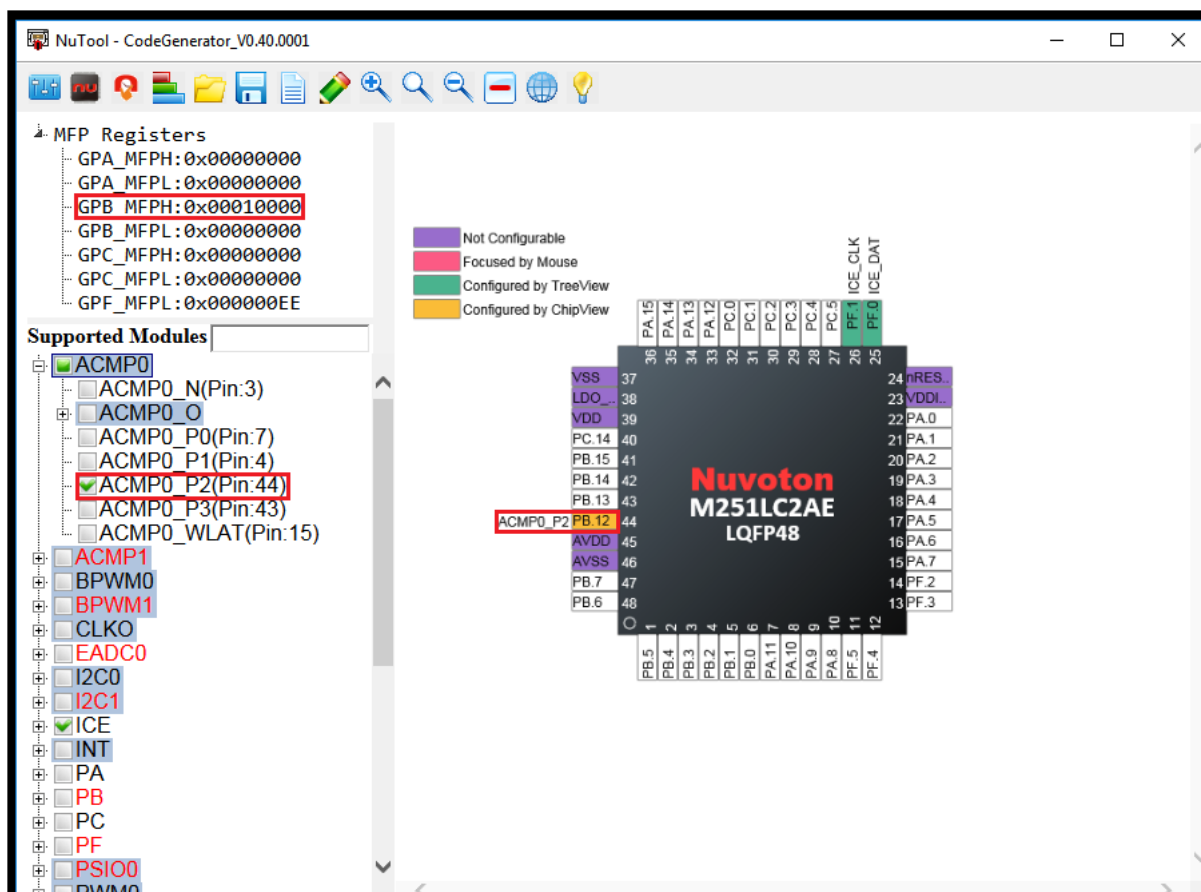

Figure 5-11 Results of Configuring ACMP0_P2 by the Individual Pin
2. Move the mouse cursor into the list and select the expected GPIO function and click on it. Configuring by the individual pin is accomplished. At the same time, the TreeView and the value of the MFP register will be updated correspondingly (referring to Figure 5-11).